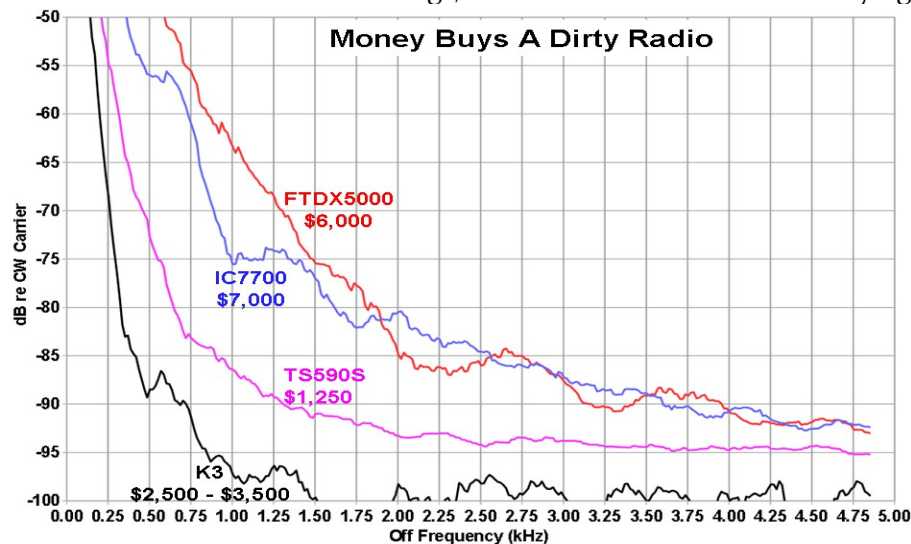

Figure 12 – Keying Bandwidth and Price
**FCC Rules 97.307 (a)** *No amateur station transmission shall occupy more bandwidth than necessary for the information rate and emission type being transmitted, in accordance with good amateur practice.* Figure 12 clearly shows that Yaesu and Icom transceivers are using 3 times more bandwidth than Kenwood and 5 times more than Elecraft. As I read the Rules, this puts anyone using them in violation of 97.307 (a). ARRL product reviews should say so! Now, I'm not suggesting that thousands of vintage rigs should be taken off the air, but at the very least we should discourage the marketing of new products that are dirty.
Figure 12 compares the keying bandwidth of the very expensive Icom IC7700 and Yaesu FTDX5000 with Kenwood's inexpensive TS590S and the mid-priced Elecraft K3. If Kenwood can do this for \$1,250, why can't Icom and Yaesu? And why should we let Icom and Yaesu get away with spewing all this trash?